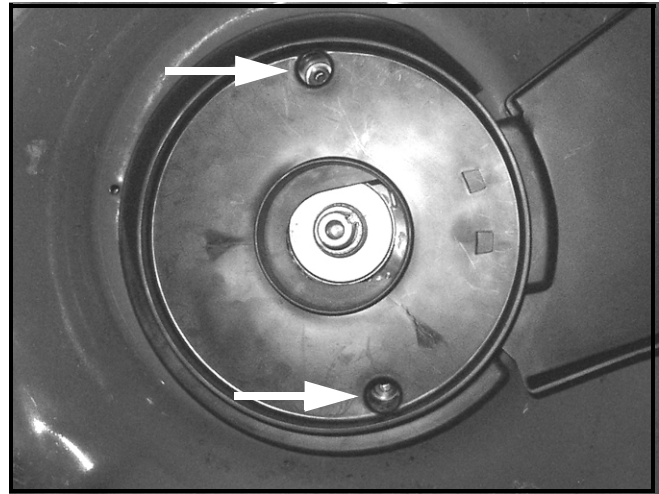

FIGURE 5
16. Seat the 731-05903 against the raised circular section of the deck as shown in Figure 5. Mark the deck at the two baffle mounting holes as shown in Figure 5.